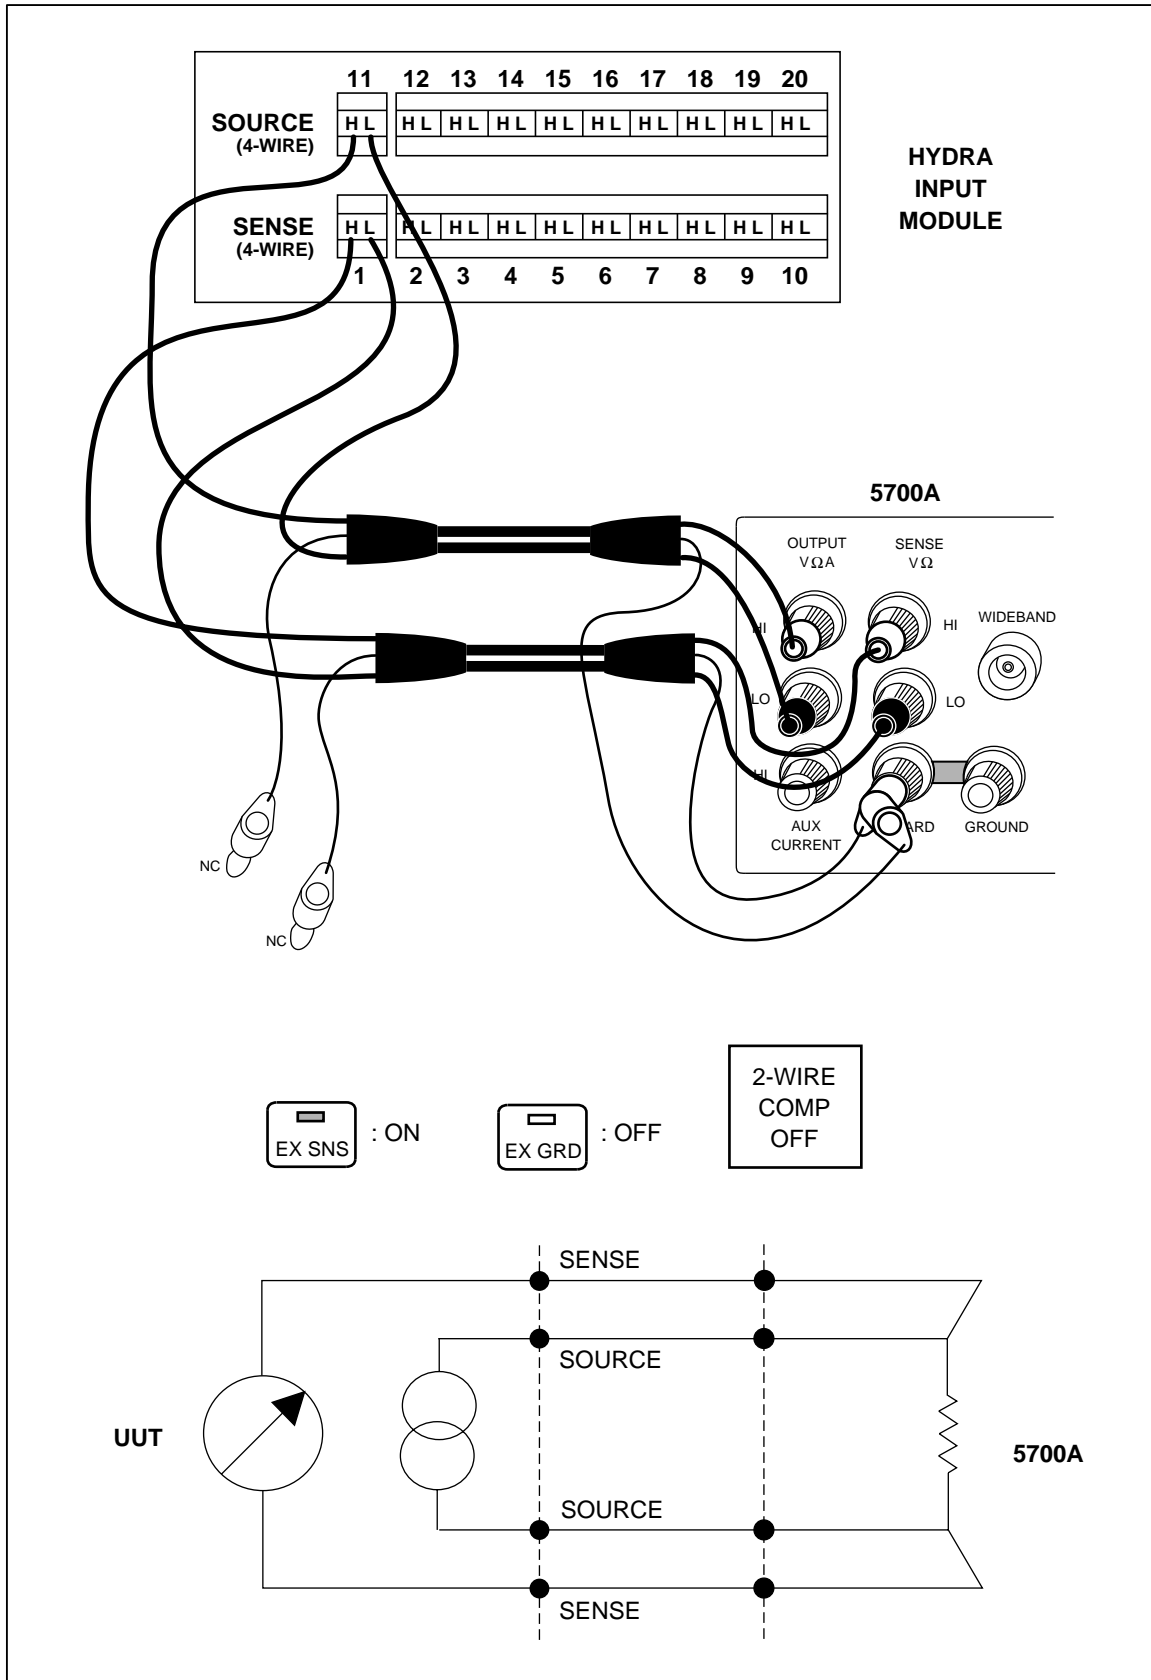

Figure 6-2. 4-Terminal Connections to 5700A
3. Observing polarity connect channel 1's test leads to the Sense HI and LO terminals of the 5700A and channel 11's test leads to the Output HI and LO terminals of the 5700A. Connect as shown in Figure 6-2.